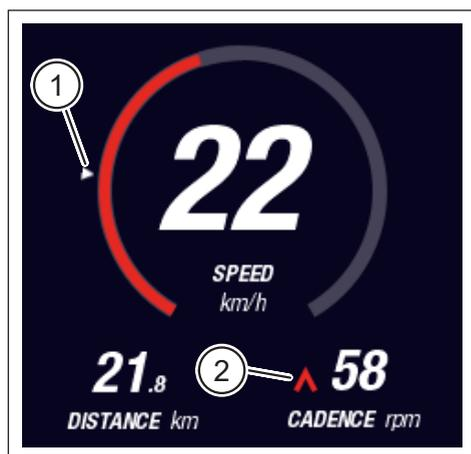

Fig. 32: Arrow on scale to indicate average value
- A white arrow (No. 1 in Fig. 32) next to a scale represents the average value of the displayed parameter.
- The red symbol pointing up or down next to the cadence indicator (No. 2 in Fig. 32) indicates to the rider whether the cadence should be increased or decreased to operate the motor in a more efficient speed range.